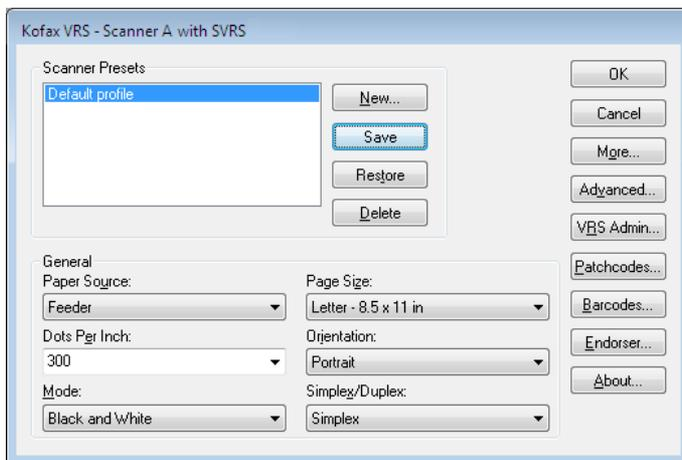

Figure 2-8. Kofax VRS ISIS Interface
- 3 The Kofax VRS ISIS interface will launch (Figure 2-8). Under General, select settings such as the paper source, DPI, mode, and paper size.